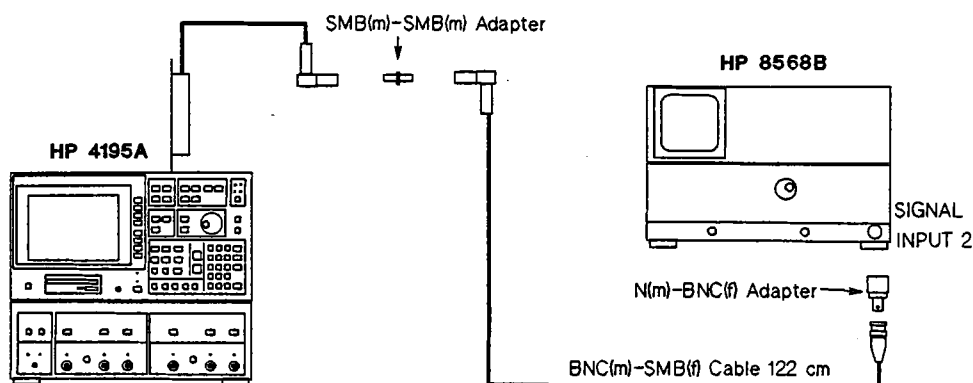

Figure 3-31. 80 MHz Reference Source Level Adjustment Setup
1. Disconnect a coaxial cable (J) from A18J10.
2. Extend the A10 board. Connect the equipment as shown in Figure 3-31.